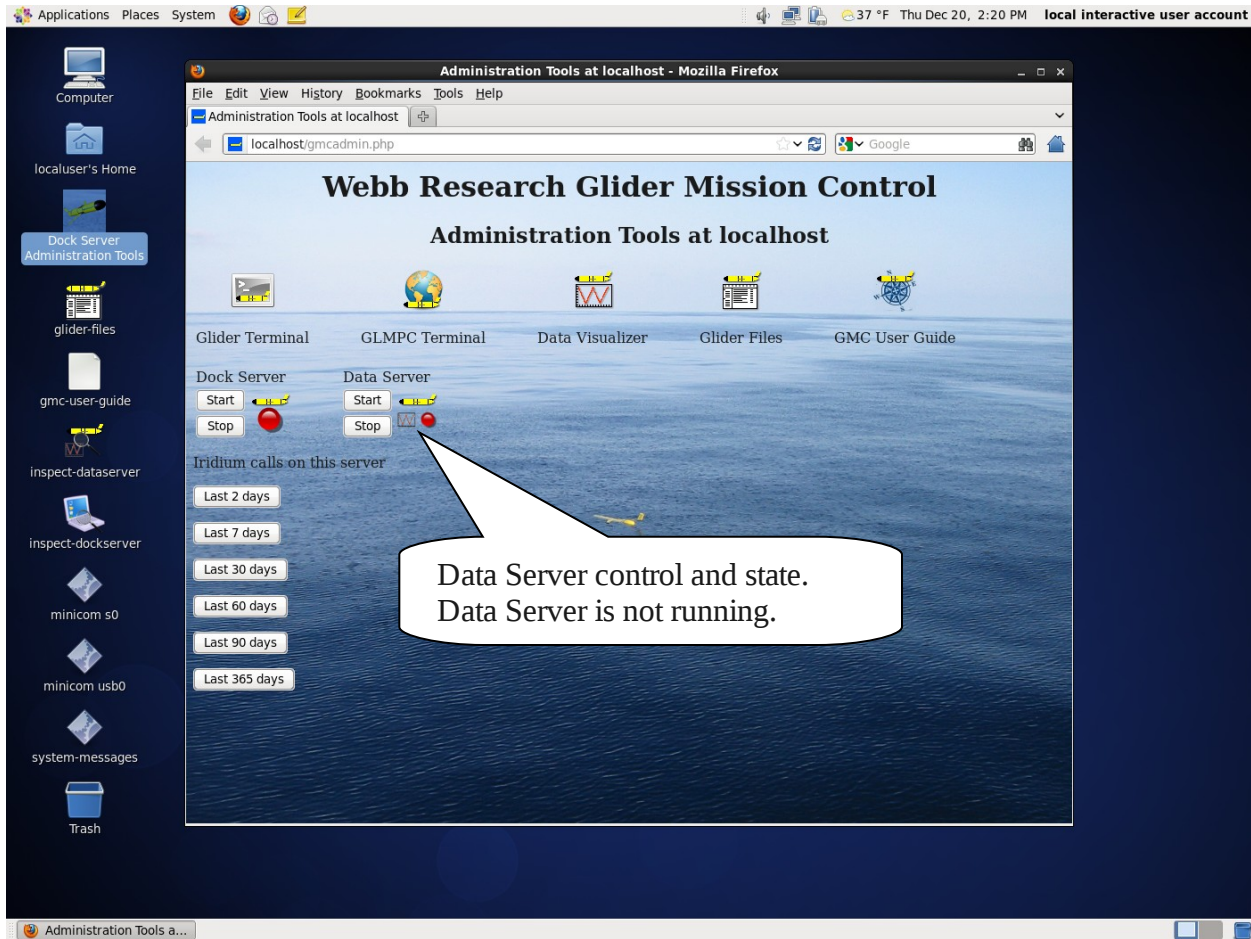

Figure 7-1. Browser window showing Data Server is not running.
A browser window opens that shows the Dock Server administration tools interface (Figure 7-1). Under the "Data Server" heading, a glider icon above a graph and colored circle shows the Data Server application state. A red circle means the application is not running; a green circle indicates it is running.
A browser window opens that shows the Dock Server administration tools interface (Figure 7-1). Under the “Data Server” heading, a glider icon above a graph and colored circle shows the Data Server application state. A red circle means the application is not running; a green circle indicates it is running.
3. To stop Data Server, click the “Stop” button under the “Data Server” heading. Once Data Server stops, the state icon turns red (Figure 7-1).